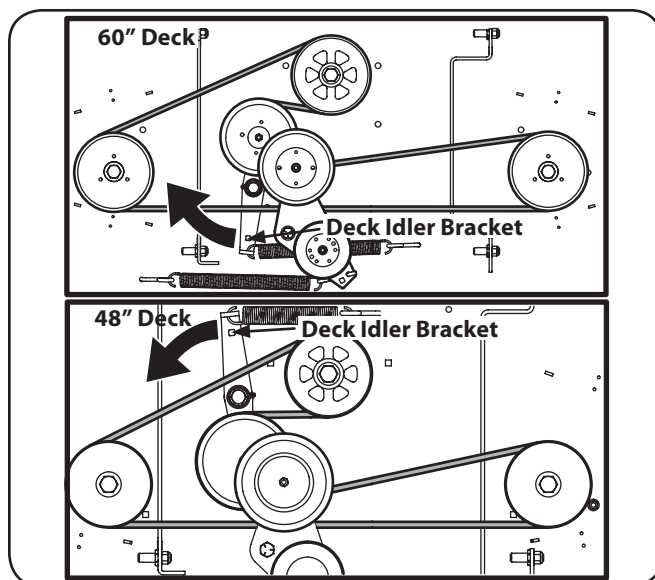

Figure 7-7
- Using a $\frac{1}{2}$ " drive insert the male end into the $\frac{1}{2}$ " square opening in the deck idler assembly and rotate the idler clockwise on the 60" deck and counter-clockwise on the 48" deck. See Fig. 7-7. While holding the deck idler, loosen the deck belt from the pulley and slide the belt away from the pulley.
- Route the new belt as shown in Fig. 7-7. Then reinstall the deck and PTO belt as instructed on pages 33-34